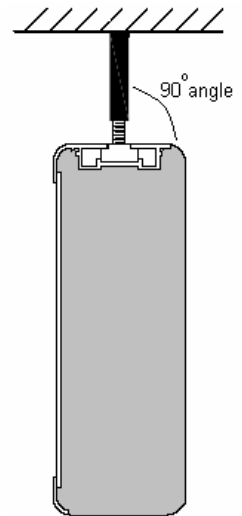

Figure 6: Ceiling Mount
1. Determine and mark the locations where the ceiling mounting supports will attach to the overhead structure. The supports, when installed, should form a 90-degree angle with the top of the display (**Figure 6**).